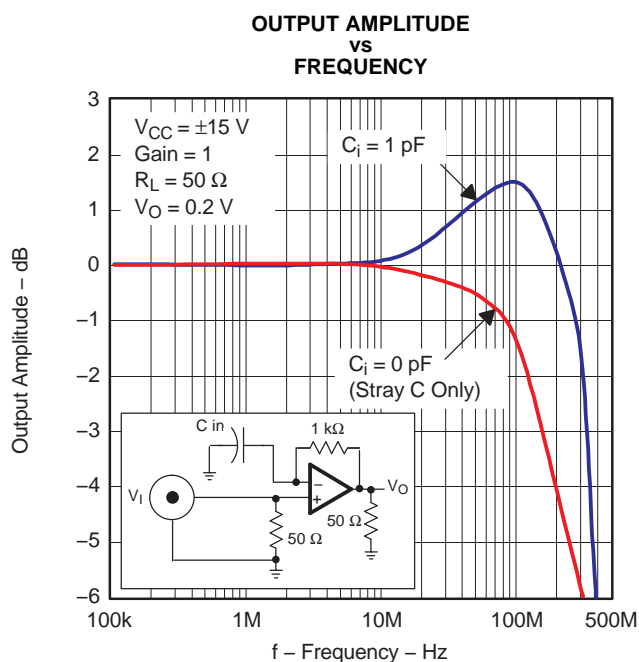

Figure 56.
- **Input stray capacitance**—To minimize potential problems with amplifier oscillation, the capacitance at the inverting input of the amplifiers must be kept to a minimum. To do this, PCB trace runs to the inverting input must be as short as possible, the ground plane must be removed under any etch runs connected to the inverting input, and external components should be placed as close as possible to the inverting input. This is especially true in the noninverting configuration. An example of this can be seen in Figure 56, which shows what happens when a 1-pF capacitor is added to the inverting input terminal in the noninverting configuration. The bandwidth increases dramatically at the expense of peaking. This is because some of the error current is flowing through the stray capacitor instead of the inverting node of the amplifier. While the device is in the inverting mode, stray capacitance at the inverting input has a minimal effect. This is because the inverting node is at a virtual ground and the voltage does not fluctuate nearly as much as in the noninverting configuration. This can be seen in Figure 57, where a 27-pF capacitor adds only 0.5 dB of peaking. In general, as the gain of the system increases, the output peaking due to this capacitor decreases. While this can initially appear to be a faster and better system, overshoot and ringing are more likely to occur under fast transient conditions. So, proper analysis of adding a capacitor to the inverting input node should always be performed for stable operation.